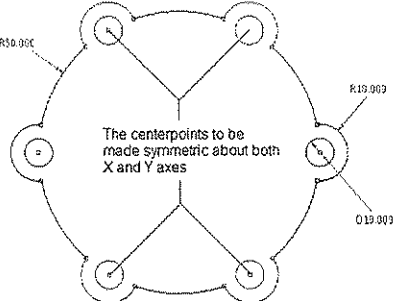

Figure 4-55 The center points to be made symmetric about both X and Y axes
20. Invoke the **Symmetry** tool from the **Constraints** toolbox and make the center points, shown in Figure 4-55, symmetric about both X and Y axes.